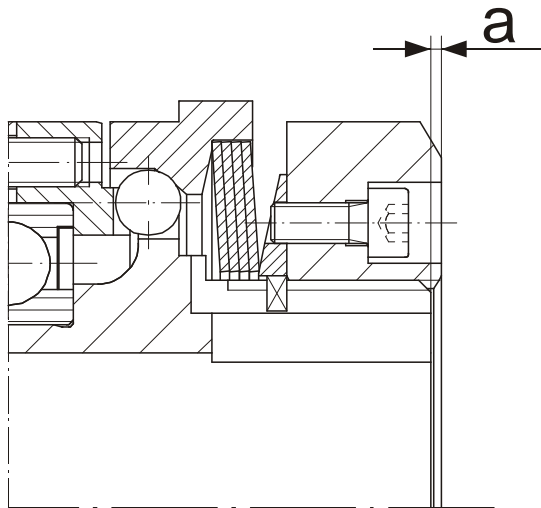
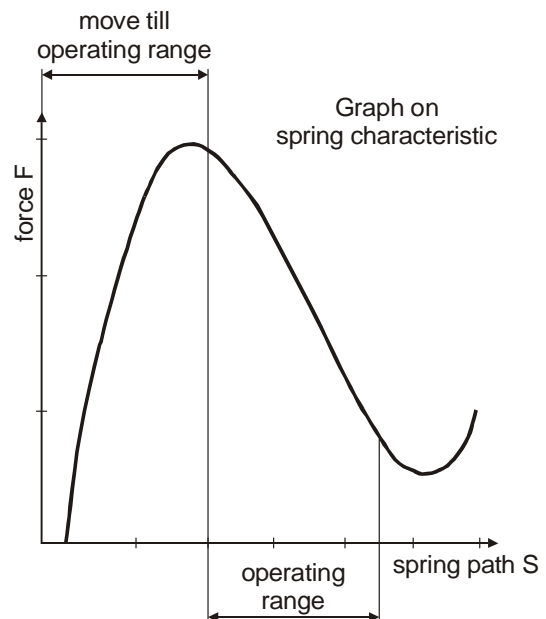

Fig. 4
Fig. 5
Torque is adjustable by turning the clamping nut (9). The cup springs (8) operate in the negative area of their characteristic (Fig. 5), i. e. tightening of the clamping nut (9) effects a decrease of the spring pressure, or a releasing of the clamping nut (9) an increase of the spring force.
An inspection „spring application in the setting range“ (Fig. 5) can be made via the **dimension „a“** (distance from hub front face (1) until clamping nut front face (9) (Fig. 4).
The clutch does not function any more, if the clamping nut (9) is adjusted or the cup springs (8) are distorted external of the service range of the cup spring characteristic (see Fig. 5).